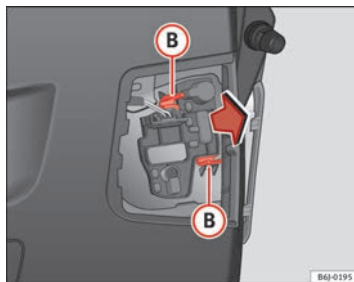

Fig. 172 Removing the bulb holder
- Remove the bulb holder by pressing the fastening clips **(B)** ⇒ fig. 172 and pulling outwards.